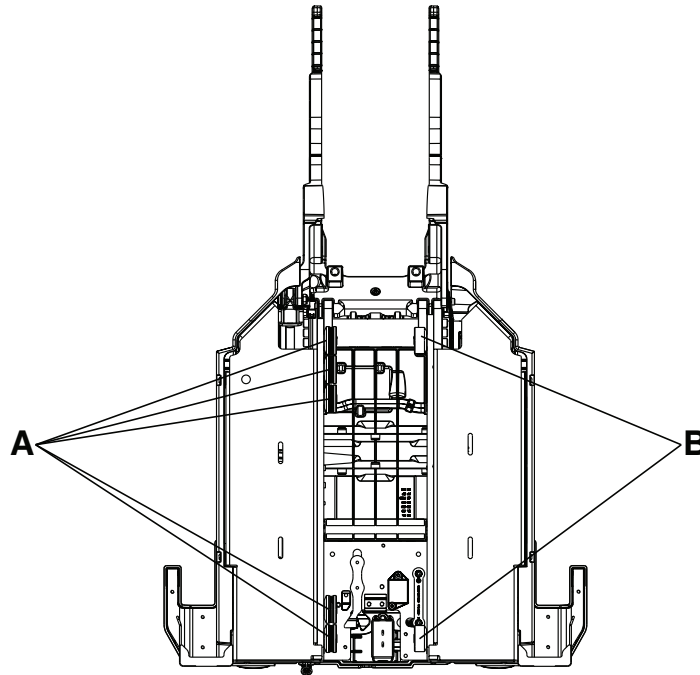

Figure 33 – Trolley bottom view of the V-guide rollers
2. Set the trolley upright on its head end (Figure 33).
Note - The V-guide rollers are on the patient right side (five rollers) (A) and the flat rollers are on the patient left side (two rollers) (B) (Figure 33).